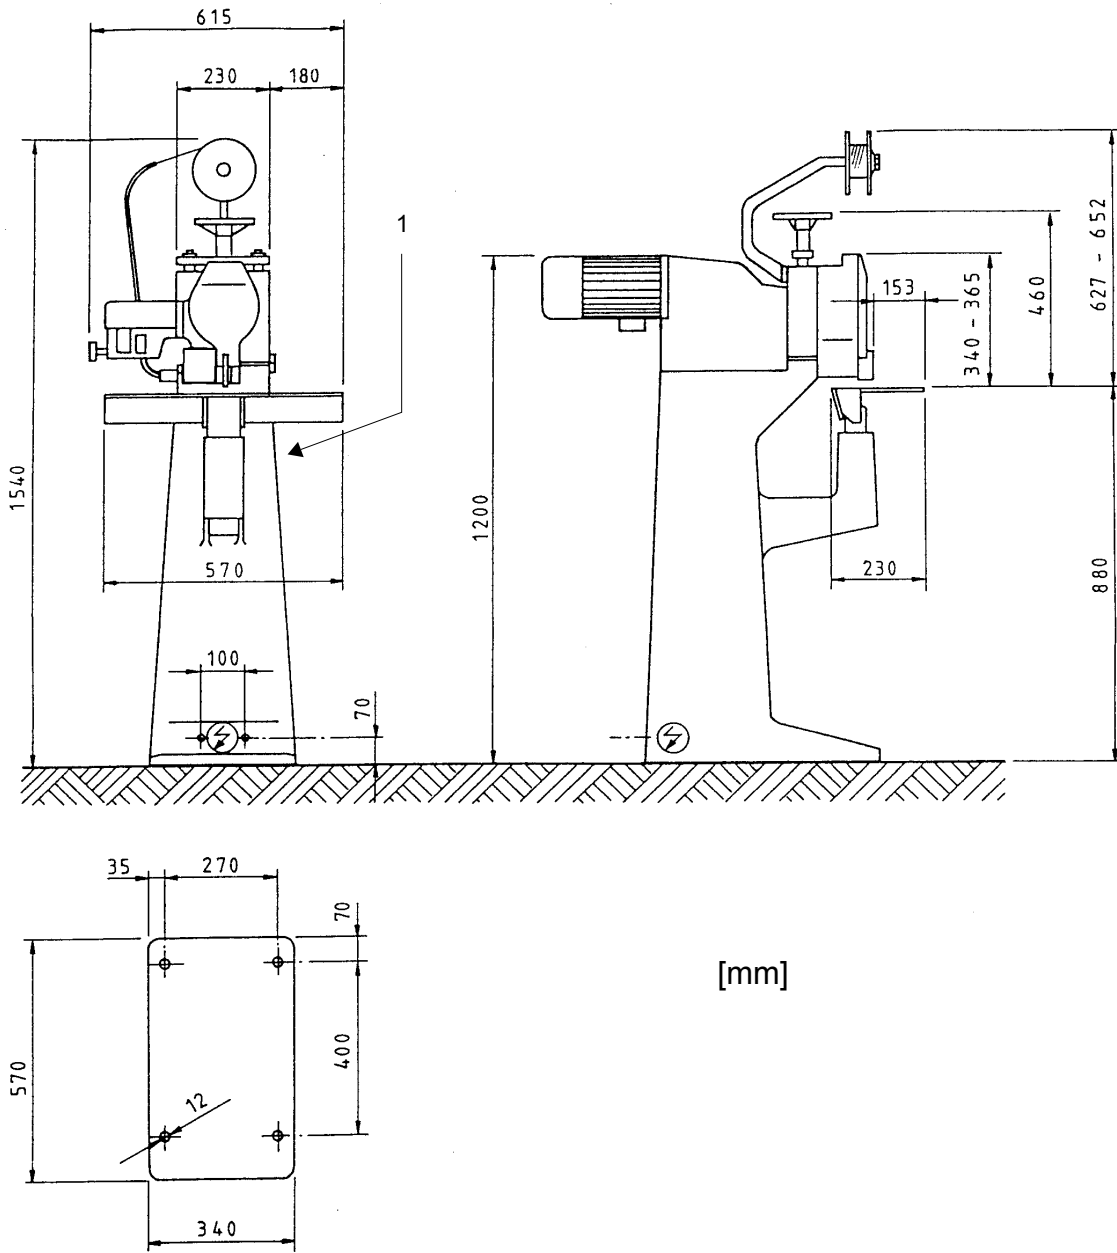

Fig. 2.1
- Fig. 2.1 -
The type plate and the CE labelling are fitted below the main switch- Fig. 2.1 -, Pos. 1.